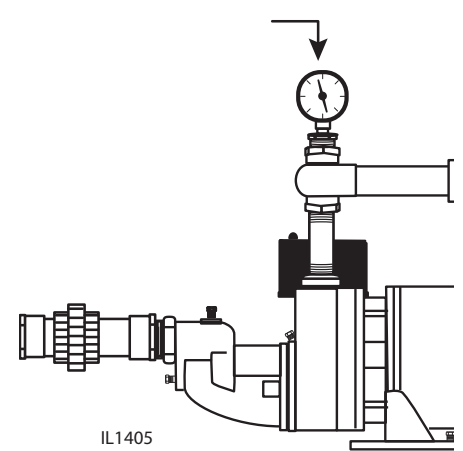

Figure 30 - Replace priming plug
4. Thread in priming plug and then open optional ball valve if installed by turning handle to line up with the pipe. (Fig. 30)